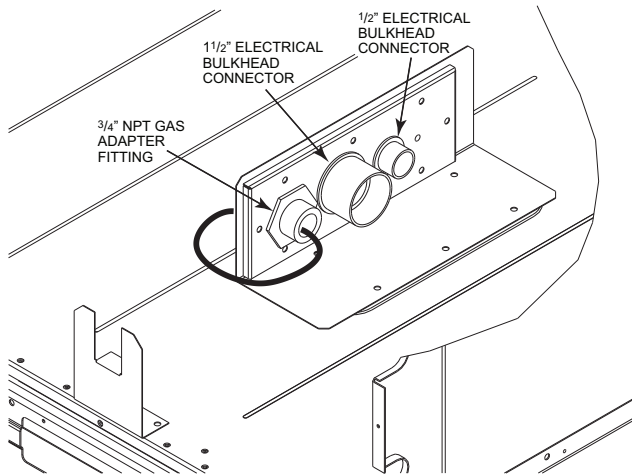

Fig. 18 — Thru-the-Base Option, Shipping Position
FACTORY OPTION THRU-BASE CONNECTIONS (GAS CONNECTION) — This service connection kit consists of a 3/4-in. NPT gas adapter fitting (stainless steel), a 1/2-in. electrical bulkhead connector and a 1 1/2-in. electrical bulkhead connector, connected to an “L” bracket covering the embossed (raised) section of the unit basepan in the condenser section. See Fig. 18.
1. Remove the “L” bracket assembly from the unit (see Fig. 18).